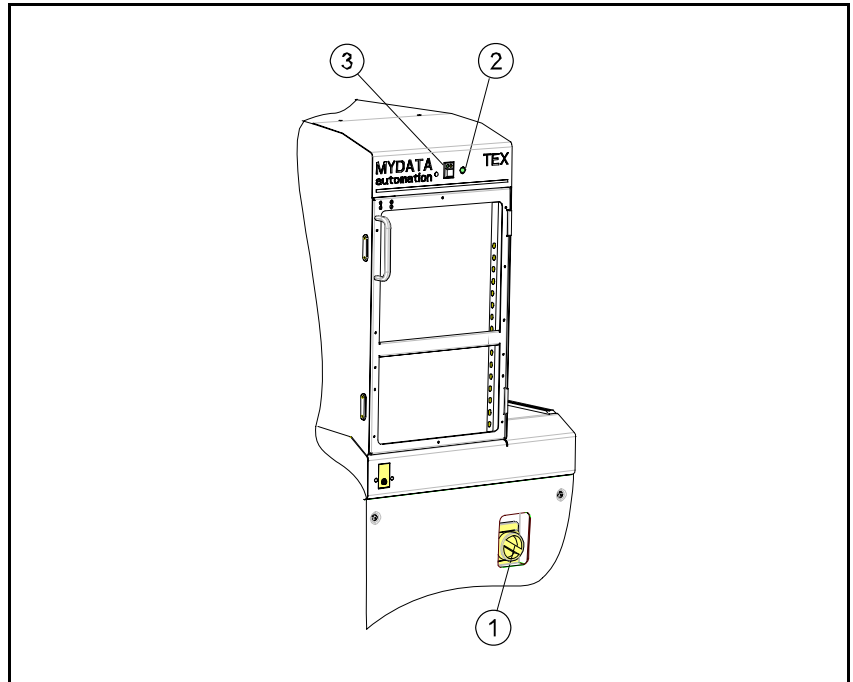

Figure 7-5. Starting the TEX Tray Exchanger.
1. Switch the main power on ('1' in Figure 7-5).